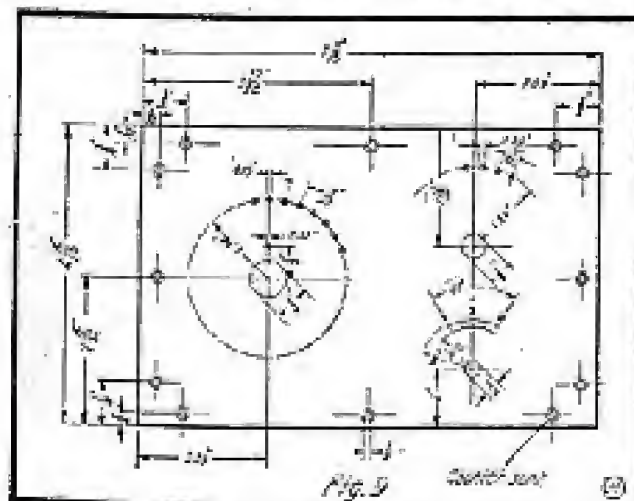

Fig. 9. Switch Lay-Out for Inductive Coupler.
Fig. 9 gives the dimensions for the front. Great care must be used in laying out the holes for switch points. Always make a dent with a center punch first, otherwise the drill point will run over the solder. They should be laid out with a pair of sharp-pointed dividers. First make a circle 1.31 inches in diameter. Then, by experimenting, the exact distance can be found to separate the holes. If the cir-
ment (see Fig. 9). If the tube and screw eyes do not line up perfectly turn the primary or piece (D) until they are in alignment, otherwise the guide will bind against the wooden strips in the primary. Read these directions carefully before attempting to put the coils in; if you do not know just what to do beforehand you will make bad work of it. The secondary taps may now be joined. Move the secondary all the way inside the primary. Then run the taps under the long staple provided for their support, and up to the switch points. These, too, must be soldered. Do not forget, however, that the left-hand end goes to one of the binding posts on the right side of the case. If the taps become mixed test them with a battery and buzzer. By